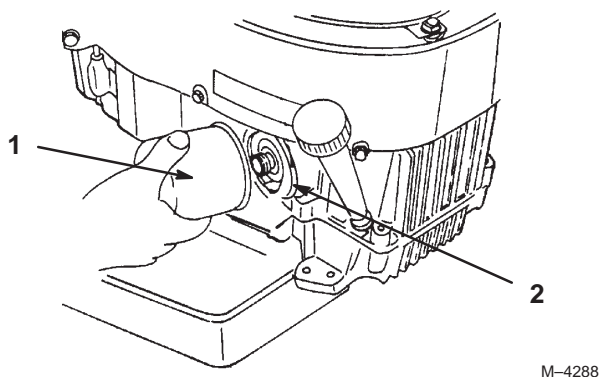

Figure 40
2. Remove the old filter (Fig. 40).
3. Apply a thin coat of new oil to the rubber gasket on the replacement filter (Fig. 40).
4. Install the replacement oil filter to the adapter. Turn the oil filter clockwise until the rubber gasket contacts the filter adapter, then tighten the filter an additional 3/4 turn (Fig. 40).